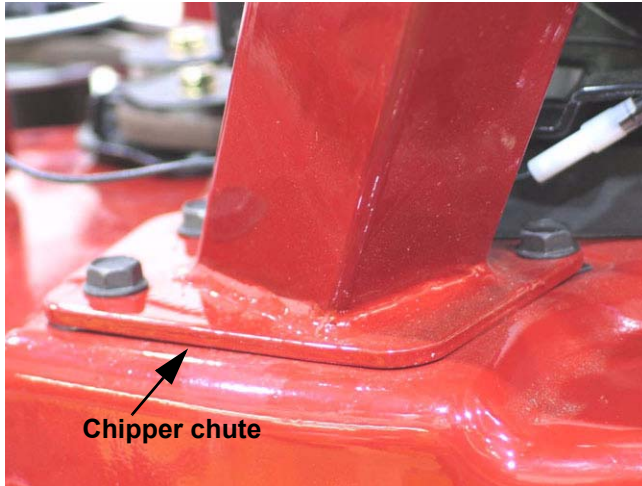

Figure 5.2
- 5.2. Remove the three bolts holding the chipper chute to the upper housing. See Figure 5.2.